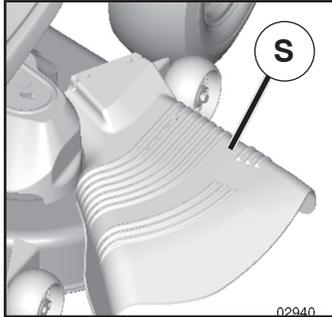

Fig. 22
CAUTION: Do not operate the mower without either the entire grass catcher, on mowers so equipped, or the deflector shield (S) in place (See Fig. 22).
USING THE REVERSE OPERATION SYSTEM (SEE FIG. 22) -